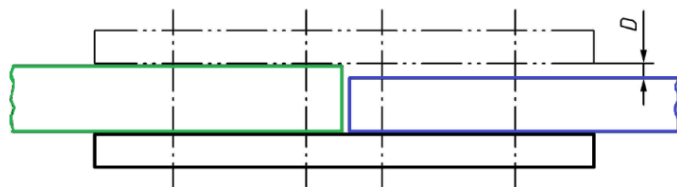

Fig. 6. The difference in part thickness in a connection with pads on both sides.
- j) For connections using pads on both sides (Fig 6.), it is recommended that D should not exceed 1 [mm]. Where steel sealing plates are provided to ensure that the above limit is not exceeded, their thickness should be no less than 1 [mm]. In conditions of risk of crevice corrosion, a tighter contact fit is required. The thickness of steel plates must be chosen so that the number of spacers does not exceed three.